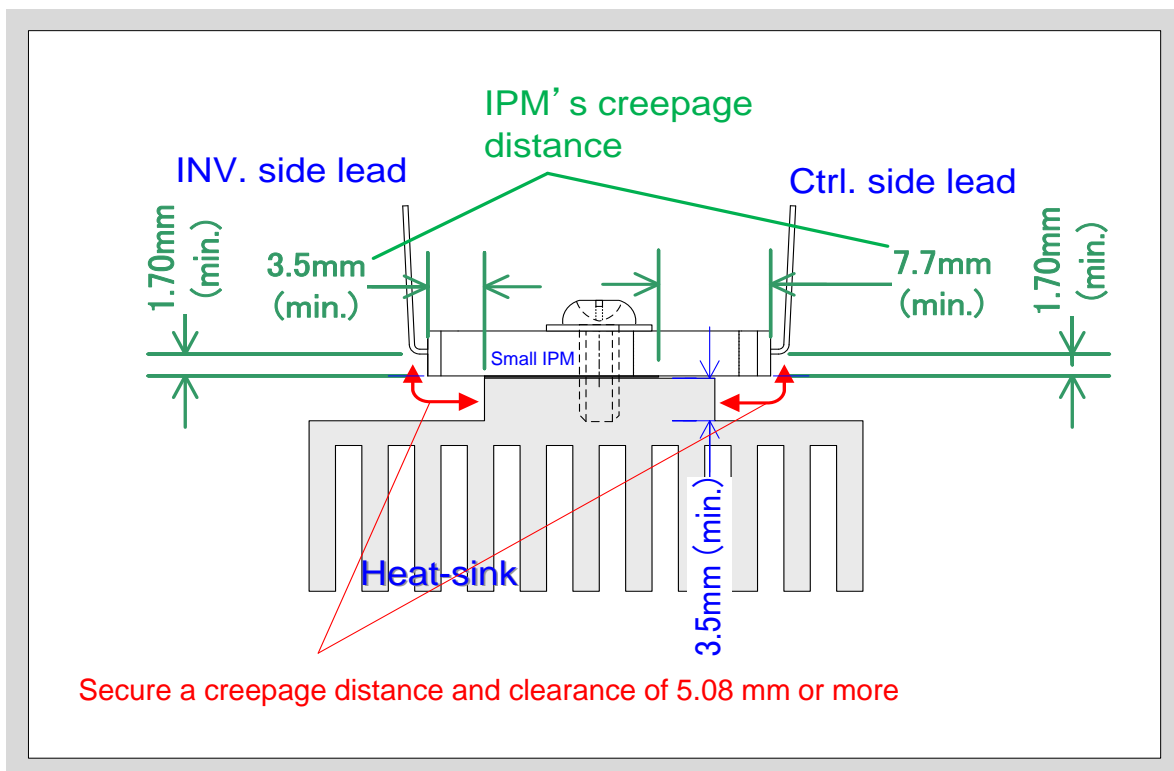

Fig. 8-2 Isolation distance of heat sink
- By processing the heat sink as shown in Fig. 8-2, it is possible to secure a clearance distance of 5.08 mm or more in accordance with UL.